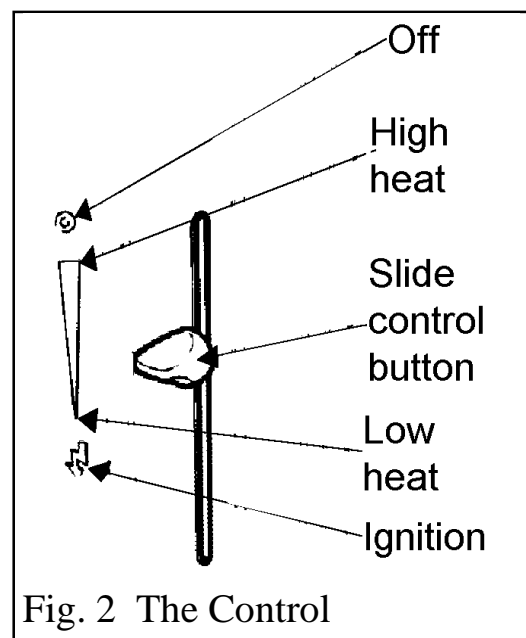

Fig. 2 The Control
The slide control is shown in figure 2.
3. If low heat is required, release the button. The button will automatically spring up to the low heat position shown in figure 2 (See note i below).
4. For a higher heat level slide the button upwards. The burner flames and heat output will gradually increase until the button reaches the high heat position shown in figure 2. When the button reaches the high heat position you will feel a check to its movement. **Do not slide the button above the high heat position unless you want to turn the fire off** (See note i below).